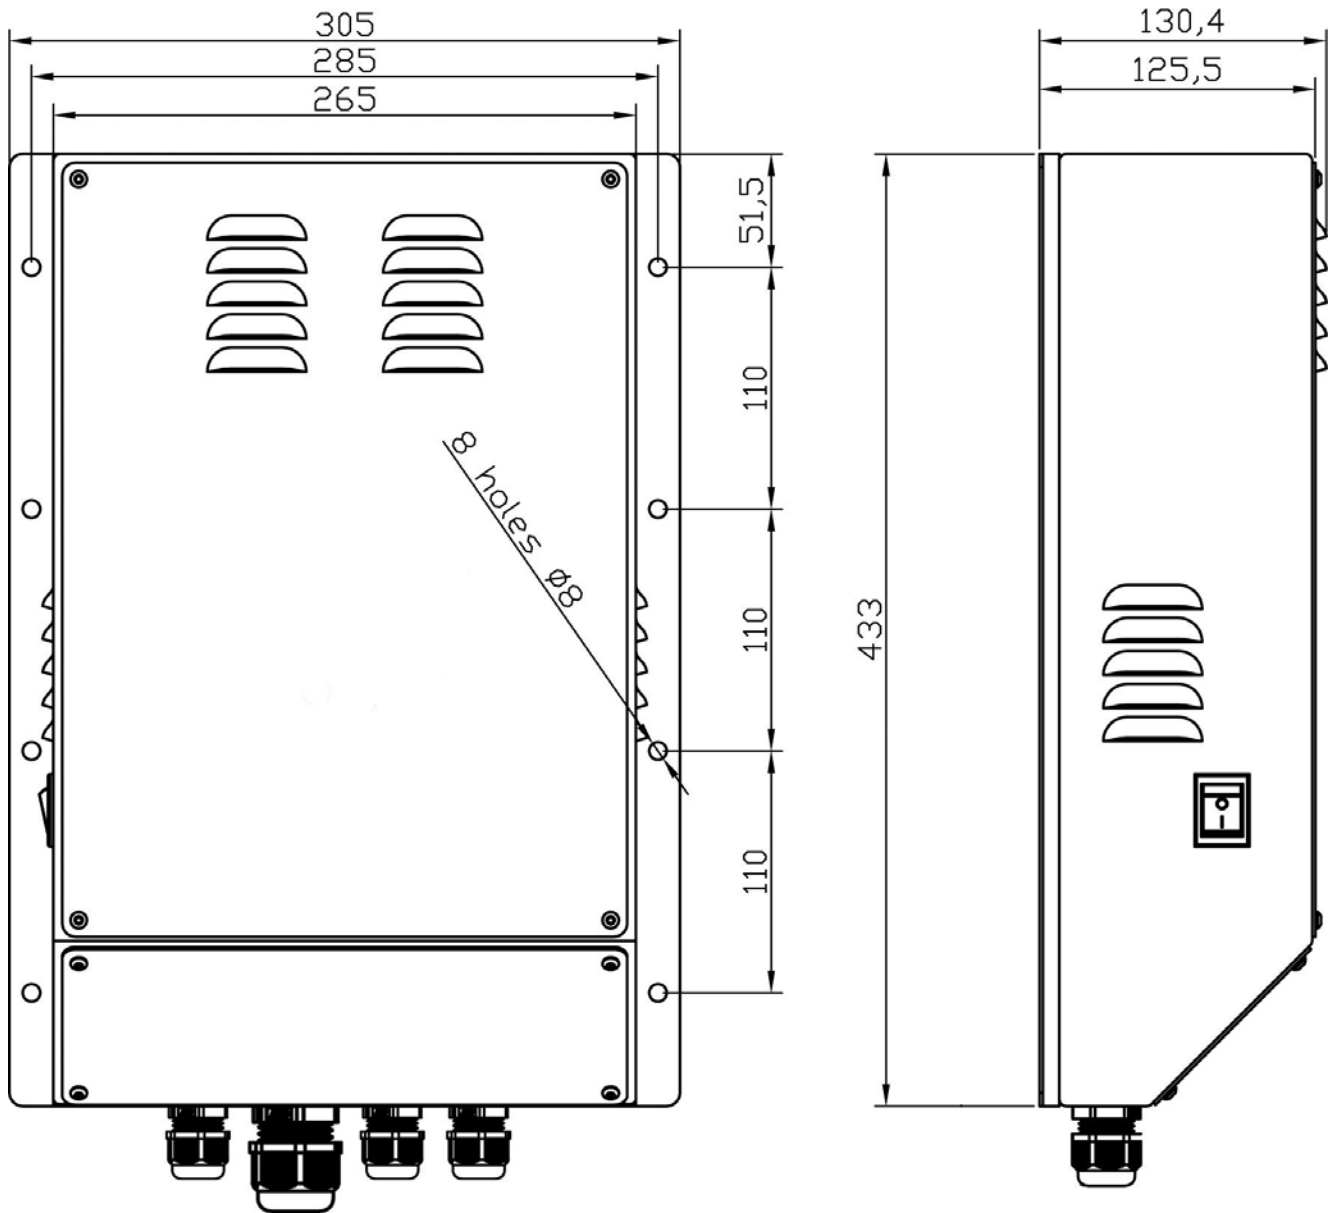

Figure 1. The PSU dimension-and-installation drawing
1) Install the PSU on a vertical bulkhead or on a mounting panel as shown in the dimension-and-installation drawing (Fig. 1). There are special holes in the PSU body to attach the PSU. The fasteners (such as screws and bolts) are fitted inside the body.